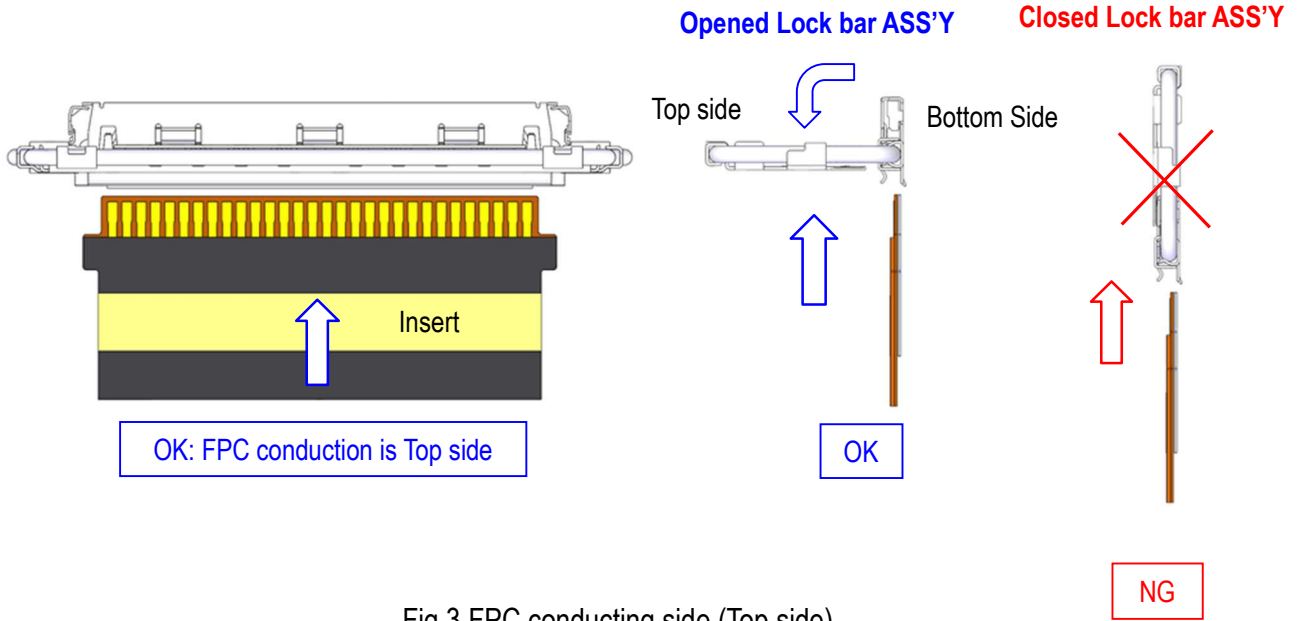

Fig.3 FPC conducting side (Top side)
- ① The FPC conductor side is faced top side, then insert it into the SHELL horizontally (Fig.3).